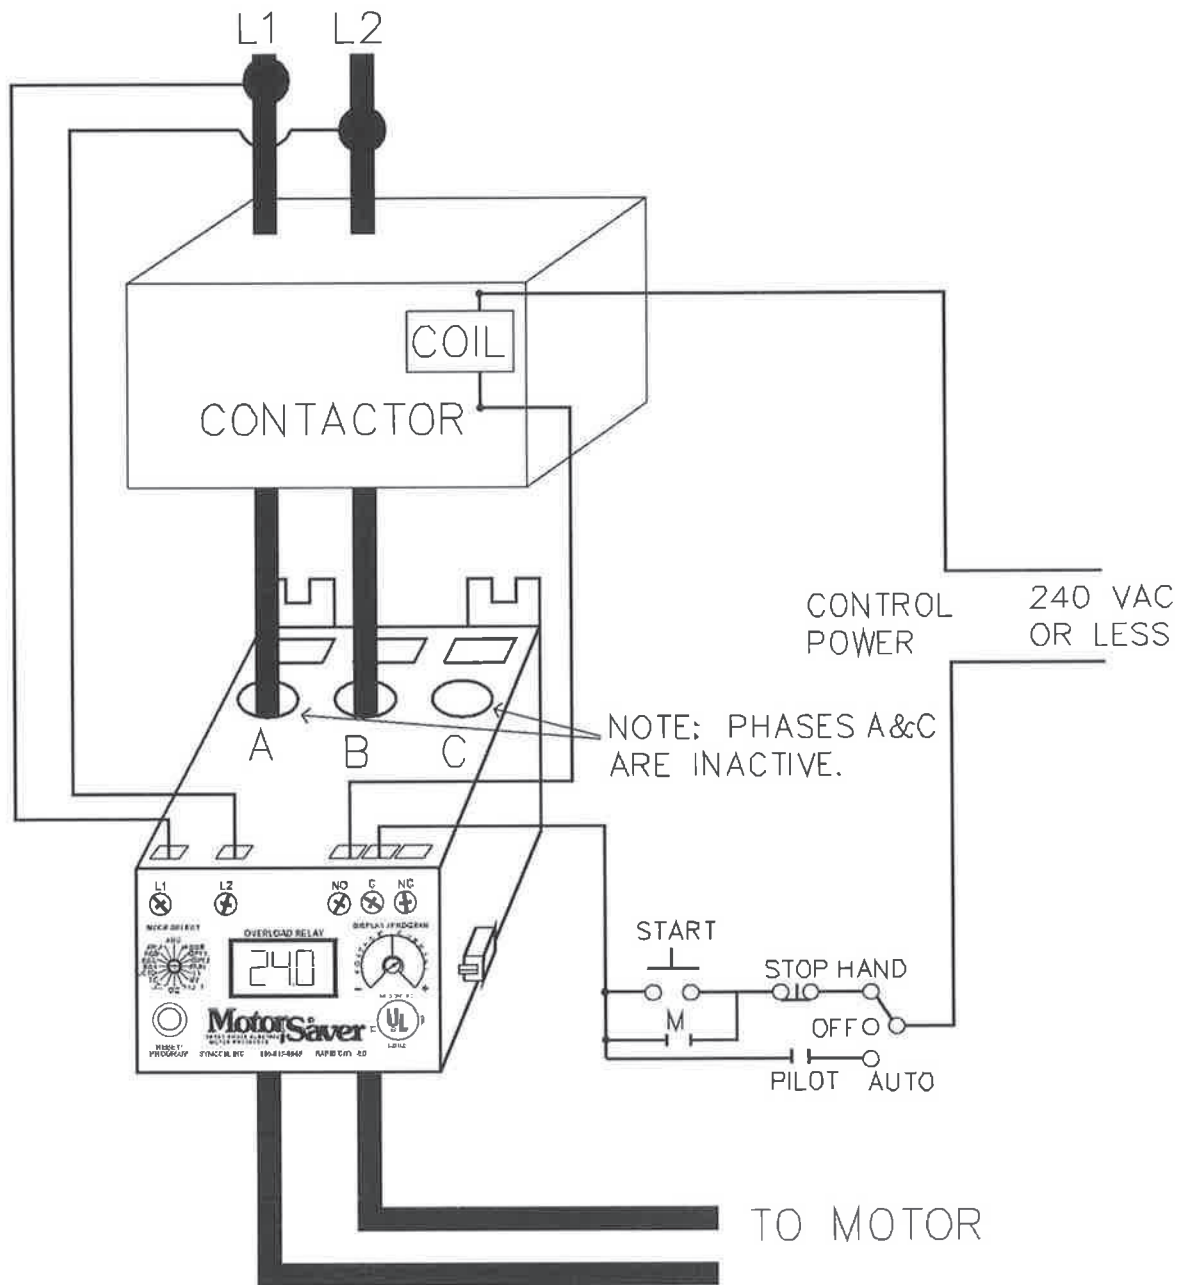

Figure No. 1: Typical Wiring Diagram
2. Insert the motor conductors through the round holes marked "A" and "B." Terminate the conductors at the line or load side of the magnetic contactor. **Note: For motors with full load amps less than 25 Amps**, loop the conductors through the holes marked "A" and "B" according to Table No. 1 below. The rectangular holes behind the holes marked "A" and "B" are provided for wire looping. (see Figure No. 1).
4. Connect the single-phase power from the line side of the contactor to "L1" and "L2." First insert a #12 - #18 AWG copper wire into the top of the terminal marked "L1" and tighten the screw on the front of the overload relay. Then, connect the other end of the wire to the line side of the contactor. Repeat these two steps for "L2." (see Figure No. 1).
5. Connect the output relay to the circuitry to be controlled (see Figure No. 1). To control a motor, connect the normally open contact in series with the magnetic coil of the motor starter as shown. To sound an alarm, connect the normally closed contact in series with the alarm (not shown).